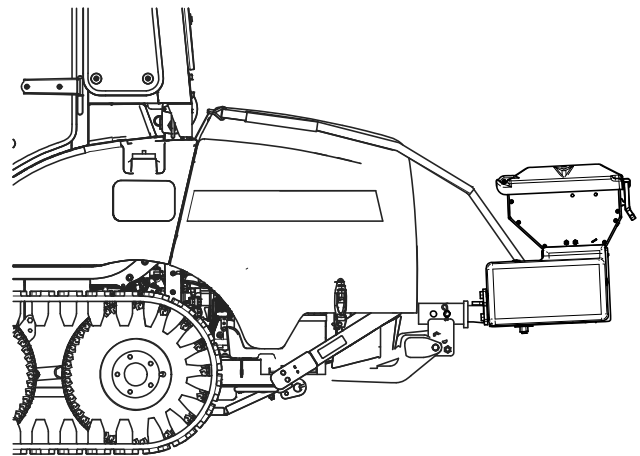

Figure 21
1. Slide the spreader hitch into the receiver hitch on the vehicle and line up the second hole on the spreader hitch with the hole in the hitch of your vehicle (Figure 21).